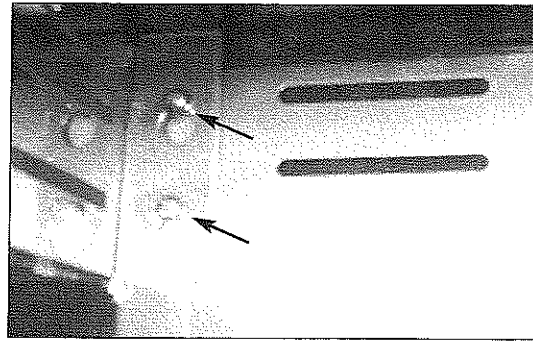

Fig 2
2. Use a phillips head screwdriver to loosen the back two screws holding the left side shelf on the grill left side. (See Fig. 2)